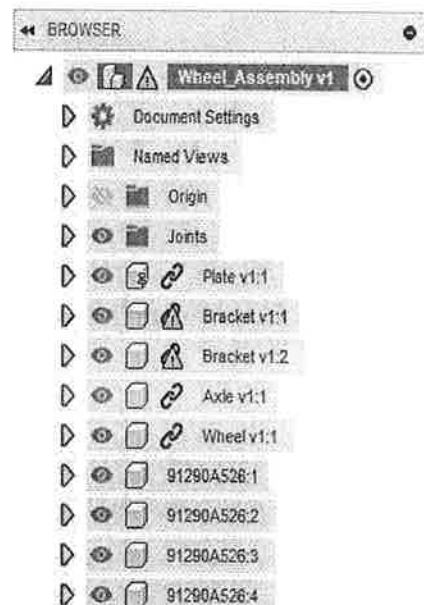

Figure 14-48
4. Return to the **Wheel_Assembly** window. Note that the BROWSER indicates that the components and the top-level assembly are out-of-date (⚠), as shown in Figure 14-48.